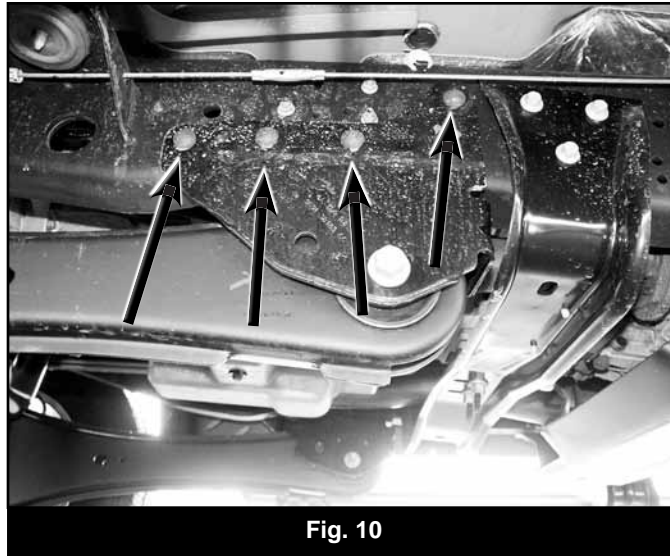

Fig. 10
36. Locate the seven rivets that attach the OE radius arm mounting bracket to the frame. There will be four on the outside and three in the inside of the bracket fastening the bracket to the bottom of the frame. (Fig. 10)